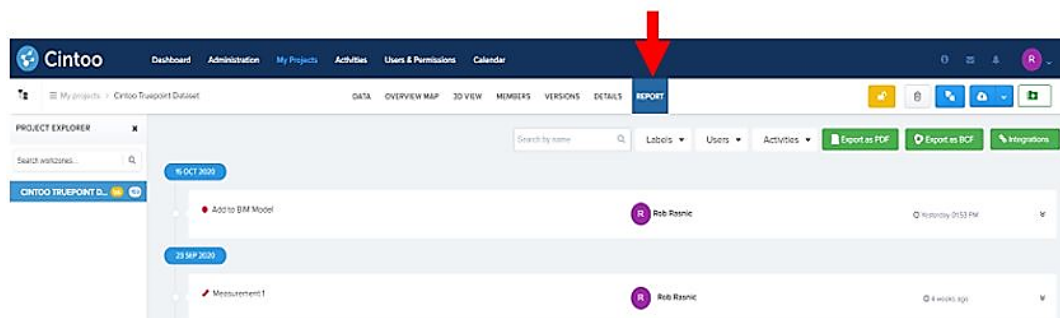

FIGURE 17: REPORTS TAB
- Select the **Reports** tab: (Figure 17)